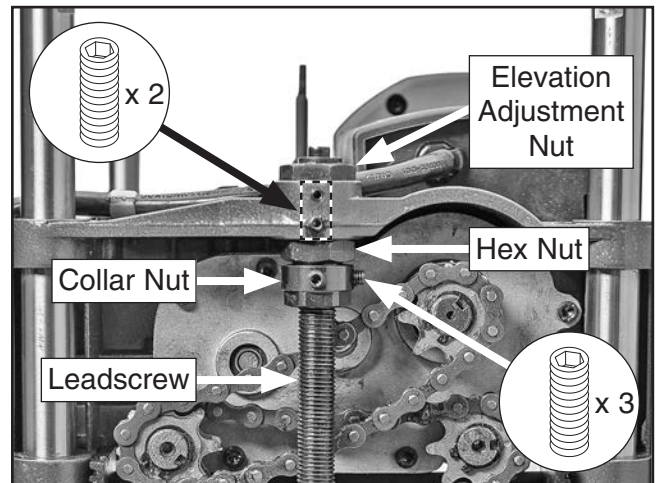

Figure 46. Location of headstock adjustment components. (Top assembly and side covers removed for clarity.)
6. On side of headstock to be adjusted, loosen (2) set screws (see **Figure 46**).
7. Loosen (3) set screws in collar nut (see **Figure 46**), then thread collar nut down leadscrew approximately $\frac{1}{8}$ ".
8. Rotate elevation adjustment nut (see **Figure 46**) to raise or lower headstock until cutterhead evenly touches wood blocks.
9. Thread collar nut tightly against bottom of hex nut (see **Figure 46**). *Do not overtighten.*
10. Tighten (3) set screws in collar nut (see **Figure 46**).
11. Tighten (2) set screws in side of headstock (see **Figure 46**).